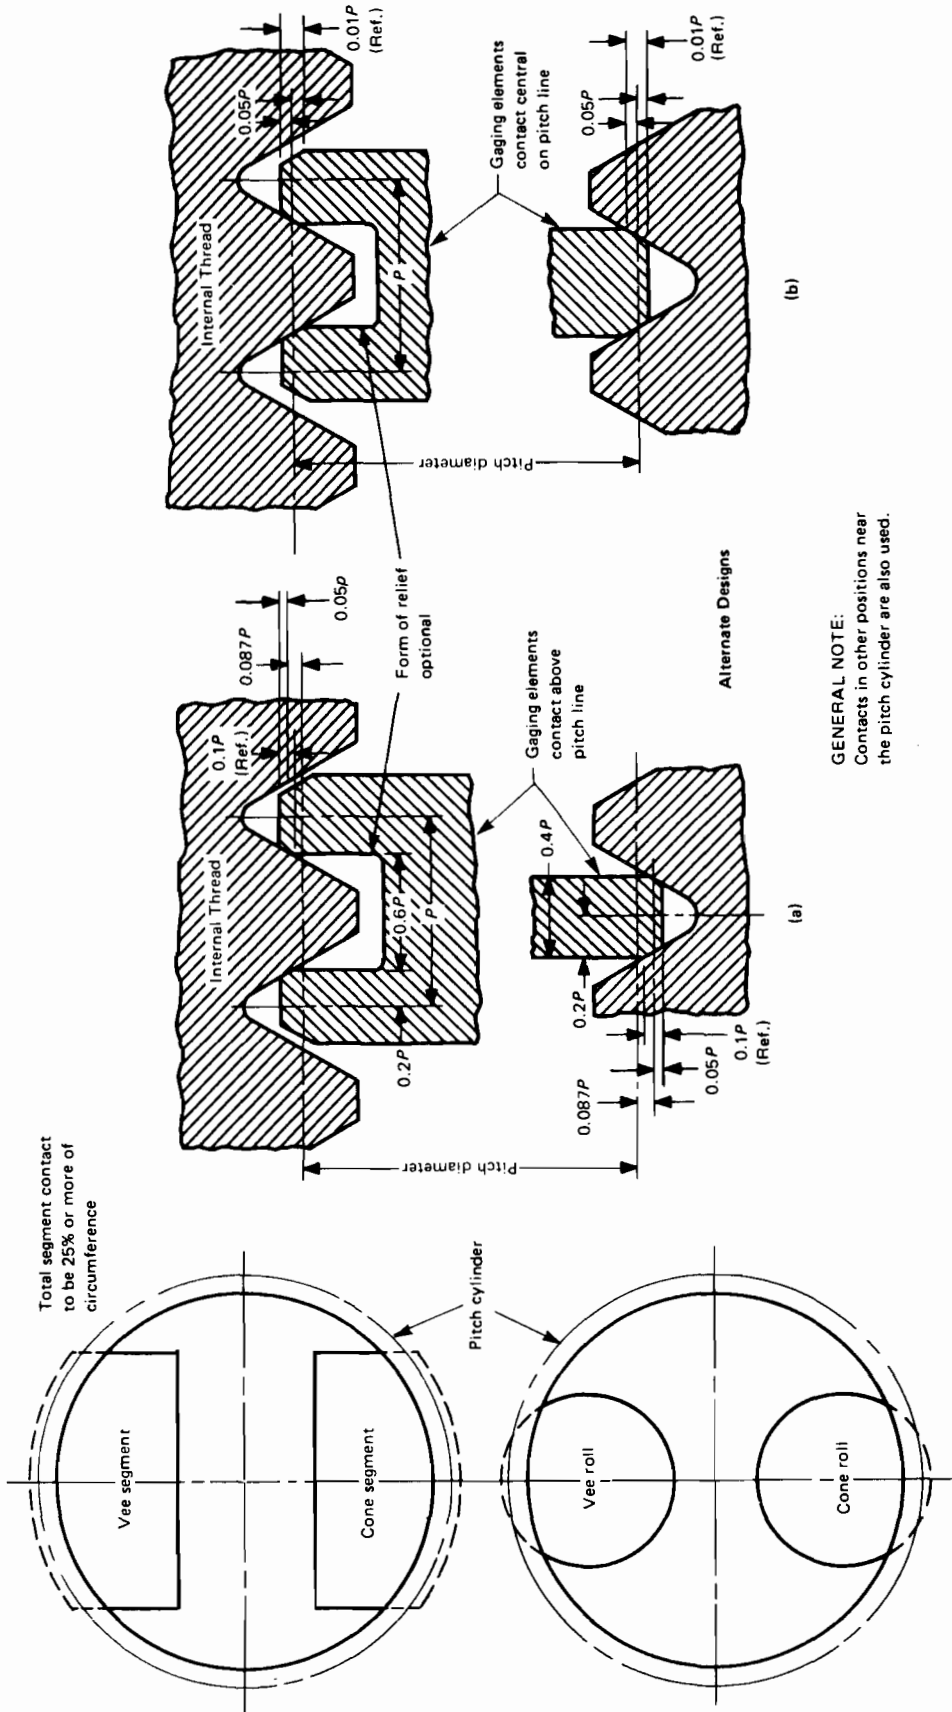

FIG. 6 THREAD SNAP GAGES — MINIMUM-MATERIAL PITCH DIAMETER LIMIT — CONE AND VEE
4.5.1 Purpose and Use. The thread snap gage with two segments or two rolls, both made to cone and vee design as shown in Fig. 6, inspects the minimum-material limit pitch diameter, C_1 , of the product internal thread.
4.5.2 Basic Design. The segments are usually made having a surface contact slightly above the pitch line near the center of the flank. The rolls are made with a point or line contact approximately at the pitch line, depending upon the angle variations of the thread flanks. See Fig. 6 for details. Internal product threads less than 5 mm in diameter are not practical to check with snap gages.
4.5.3 Thread Form. The specifications for thread form, thread crests, and thread roots are summarized in Fig. 6.